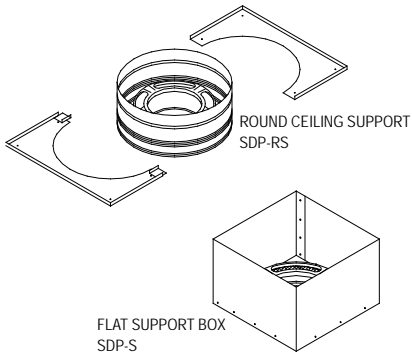
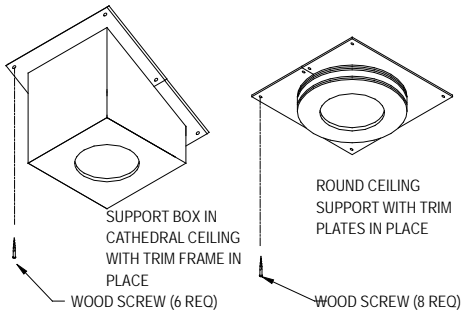
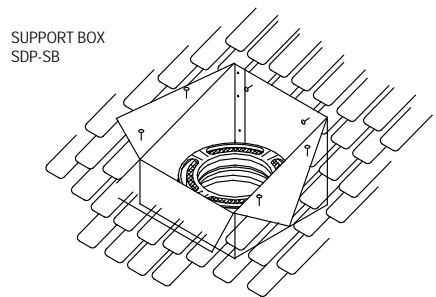

Figure 5
Figure 6
Figure 22
3. **Install Support:** Slip the Support Box (Figure 5), into the framed opening. It must extend at least 2 inches below the finished ceiling. Level the Square Support Box and nail it to the framing using at least two 8-penny nails per side. The two Trim Frames are positioned as shown, and screwed through the ceiling and into the framing members with (6) 1-1/4 inch long round-head wood screws. (Figure 6). The bottom of the Round Support must also be at least 2 inches below the finished ceiling. Trim for the Support Boxes is "U-shaped". The trim pieces are adjusted to accommodate the Square Support Box, and screwed into the framing, using wood screws. A completed Square Support Box installed in
a cathedral ceiling with the "U-shaped" trim is also shown in Figure 6. Trim kits are available in brass, to enhance the appearance of the various Support Boxes and Trim Frames. Where the chimney passes through additional floors and ceilings, install Firestop Radiation Shields. Where the chimney passes through an attic, Firestop Radiation Shields and Insulation Shields must be installed.
3. Install Support Box: Slip the Square Support Box into the framed opening so it projects at least 2 inches below the finished ceiling and rafters, and extends above the ceiling to framing or decking materials to which it will be nailed. Level the Support Box, and slit the corners to the roofline where they extend beyond it. Bend the flaps (created by the slitting) flush with the roof, and nail the Support Box to the roof or framing with at least two 8-penny nails per side. (*Figure 22*). Screw the trim sections into the ceiling. (*Figure 6*).